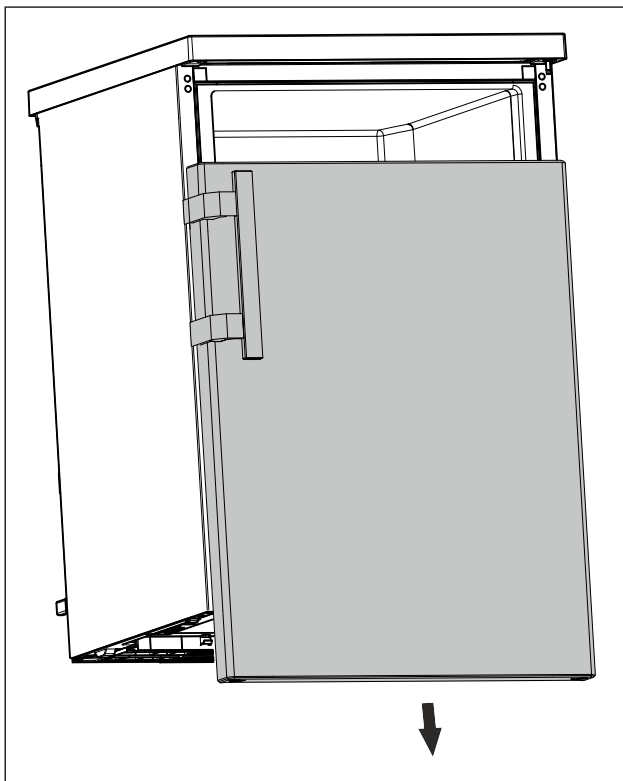

Fig. 12
- Remove the door downwards. (see Fig. 12)